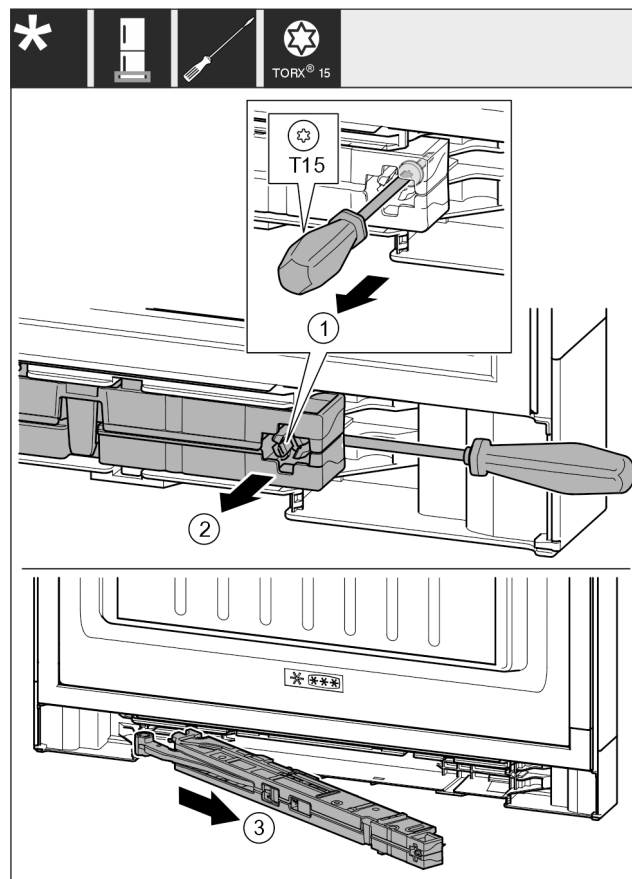

Fig. 15
- Undo the soft stop mechanism screw with a T15 screwdriver approx. 14 mm (9/16 in). Fig. 15 (1)
- Insert the screwdriver on the handle side behind the soft stop unit. Turn the unit forward. Fig. 15 (2)
- Pull out the unit. Fig. 15 (3)